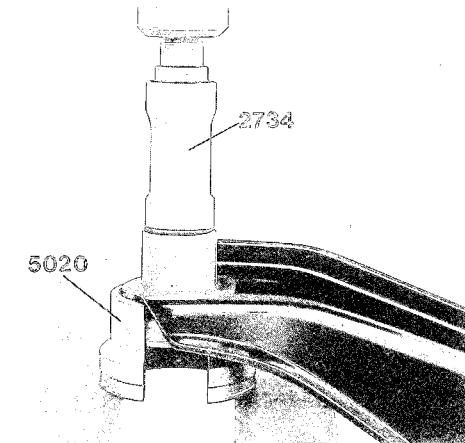

Fig. 6-33. Bushing removal
3. Press out the front bushing with the help of driver 2734 and adapter 5020, Fig. 6-33.